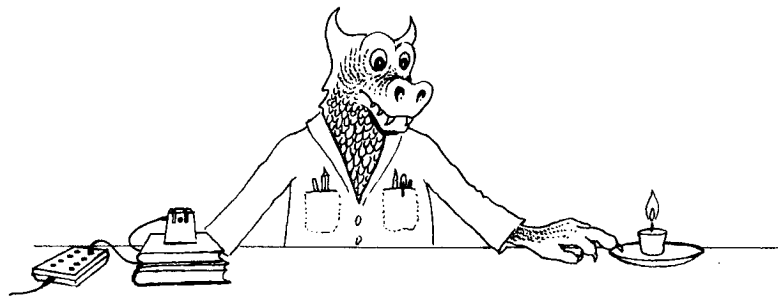

Figure 1.1-5. *Moving the candle away from the Light Sensor.*
12. Slowly move the candle away from the Light Stand. Try to keep the candle directly opposite the Light Sensor. The band inside the light meter will be red before you move the candle, and the number to the right of the meter will be >100%. As you move the candle away, you will see the yellow band fill the light meter on the screen and the numbers to the right of the meter will change. Adjust the candle so that the numerical readout indicates 100 %LIGHT and the ">" sign no longer appears. (Figure 1.1-5)